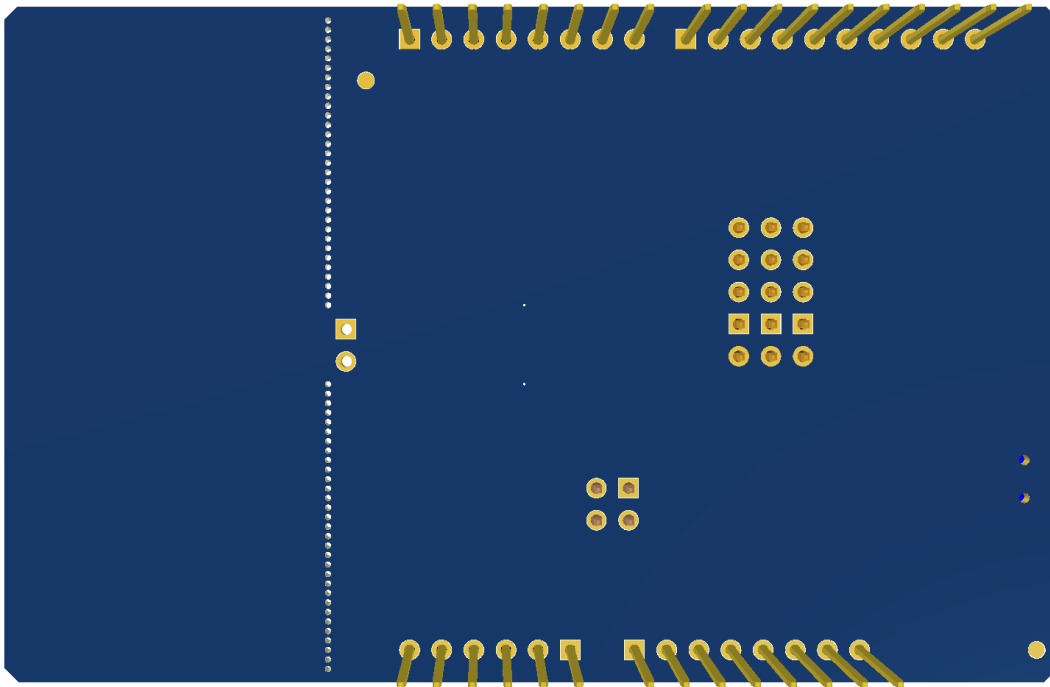

Figure 12. PTX105R Arduino Board – Bottom View
- Figure 12. PTX105R Arduino Board – Bottom View9